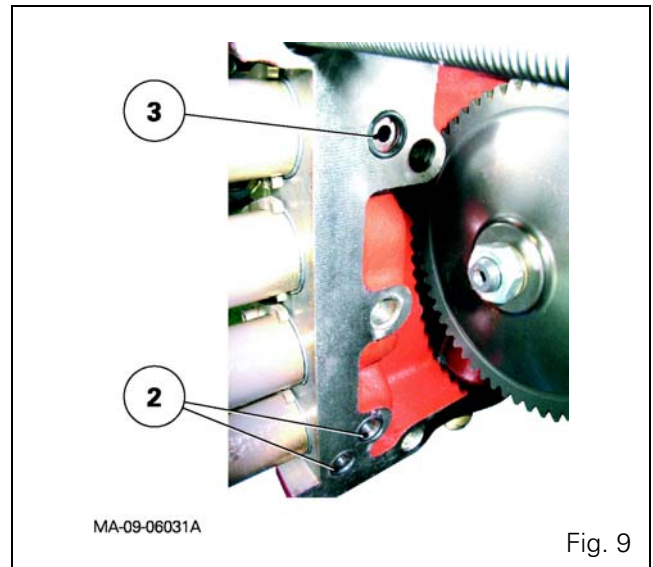

Fig. 9
- on the Hare / Tortoise channels (2) (Fig. 9)
- on the power take-off clutch channel (3) (Fig. 9).